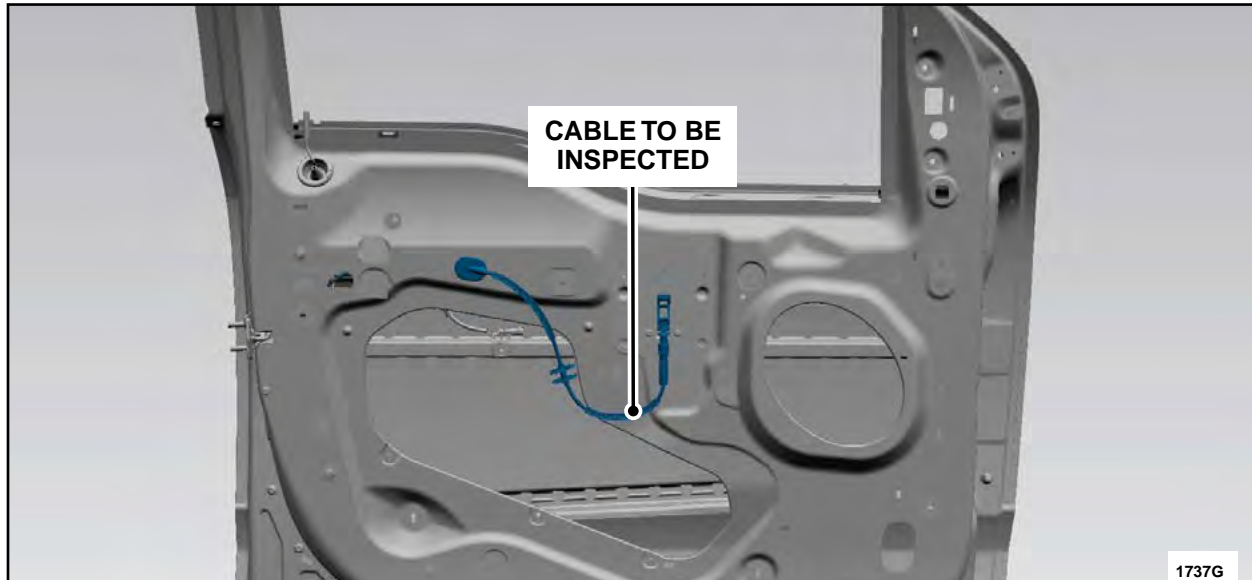

FIGURE 36
8. Inspect the interior door handle to latch cable for kinking. See Figure 36.